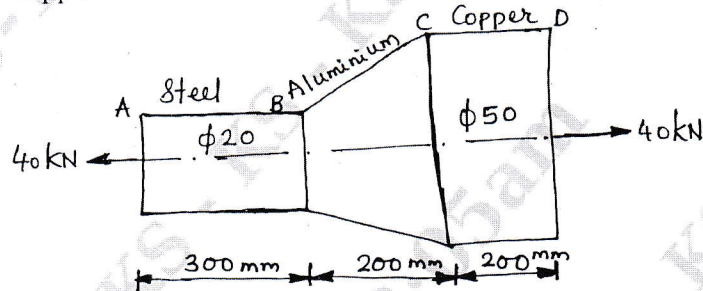

Fig. Q1(c)
- c. A stepped bar is subjected to an external loading as shown in Fig. Q1(c). Calculate the change in the length of bar. Take $E = 200\text{GPa}$ for steel, $E = 70\text{GPa}$ for Aluminum and $E = 100\text{GPa}$ for copper. (10 Marks)